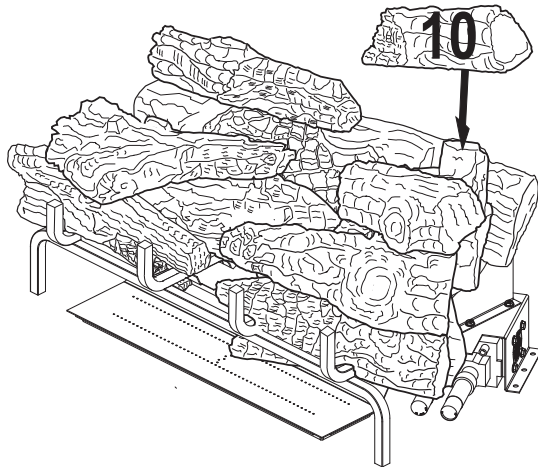

Figure 30 - Installing Log # 10
10. Place the right rear top log (#10) on top of the right rear chunk log (#7) as shown in **Figure 30, Page 20**. Match the rectangular peg on the top of the right rear chunk log (#7) with the rectangular hole on the bottom of the right rear top log (#10).